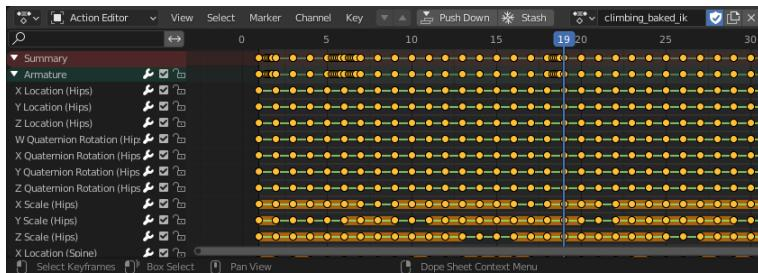

Figure 12-7 The Dope Sheet Editor
7. There are two more editor types that you will need to use for more complicated animations. The first one to look at is the Dope Sheet which allows you to see keyframe positions for a variety of different types. Change the area at the bottom from Timeline to Dope Sheet, then change the Editing context drop-down from Dope Sheet to **Action Editor**. As shown in Figure 12-7. At the top of the area some options have appeared; Push Down, Stash and a drop-down to Browse Action to be linked to the object. At the moment there is just one action, but now is a good time to rename it to climbing_baked_ik. When you import the Peasant Man .fbx there will be another action and this is where you will be able to swap them, to make the Peasant Man climb and to make Lola dance.